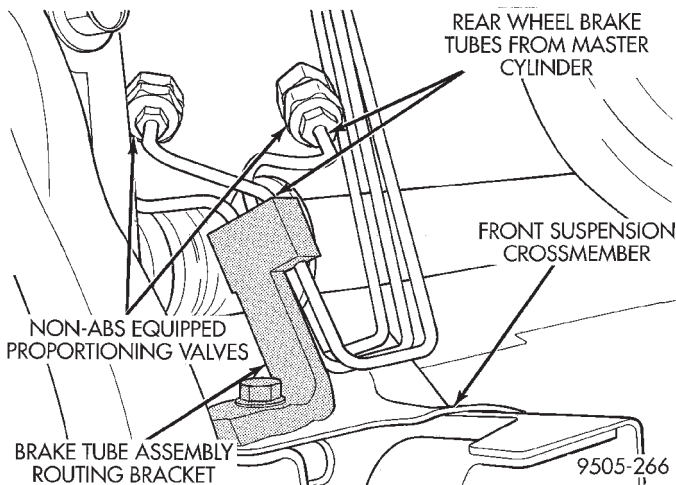

Fig. 26 Non-ABS Brake Proportioning Valve Location
One proportioning valve controls the right rear brake, and the other proportioning valve controls the left rear brake (Fig. 26). Therefore, a road test to determine which rear brake slides first is essential. Once the wheel which slides first is determined, use the following procedure to diagnose the proportioning valve.
(1) After road testing vehicle to determine which rear wheel exhibits premature rear wheel skid, refer to (Fig. 26) to determine which proportioning valve needs to be tested.
(2) Remove hydraulic brake line (Fig. 26) from proportioning valve controlling the rear wheel of the vehicle which has premature wheel skid.
(3) Then remove the proportioning valve from the rear brake line.